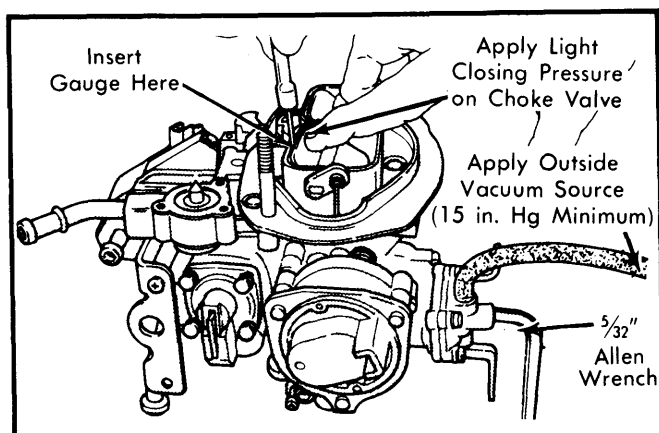

Fig. 3 Adjusting Choke Vacuum Kick (Initial Choke Valve Clearance)
3) Using specified drill or pin gauge, measure clearance between upper edge of choke valve and air horn wall at primary throttle end of carburetor. See Fig. 3.